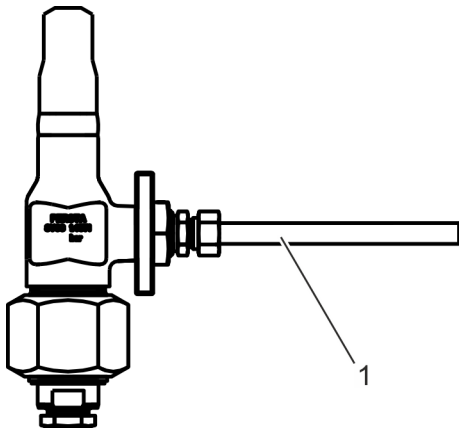

Fig. 14: Steam-releasing pipe
1. → Fit safety systems to collect and drain the medium that escapes from the steam-releasing pipe (Fig. 14/1).